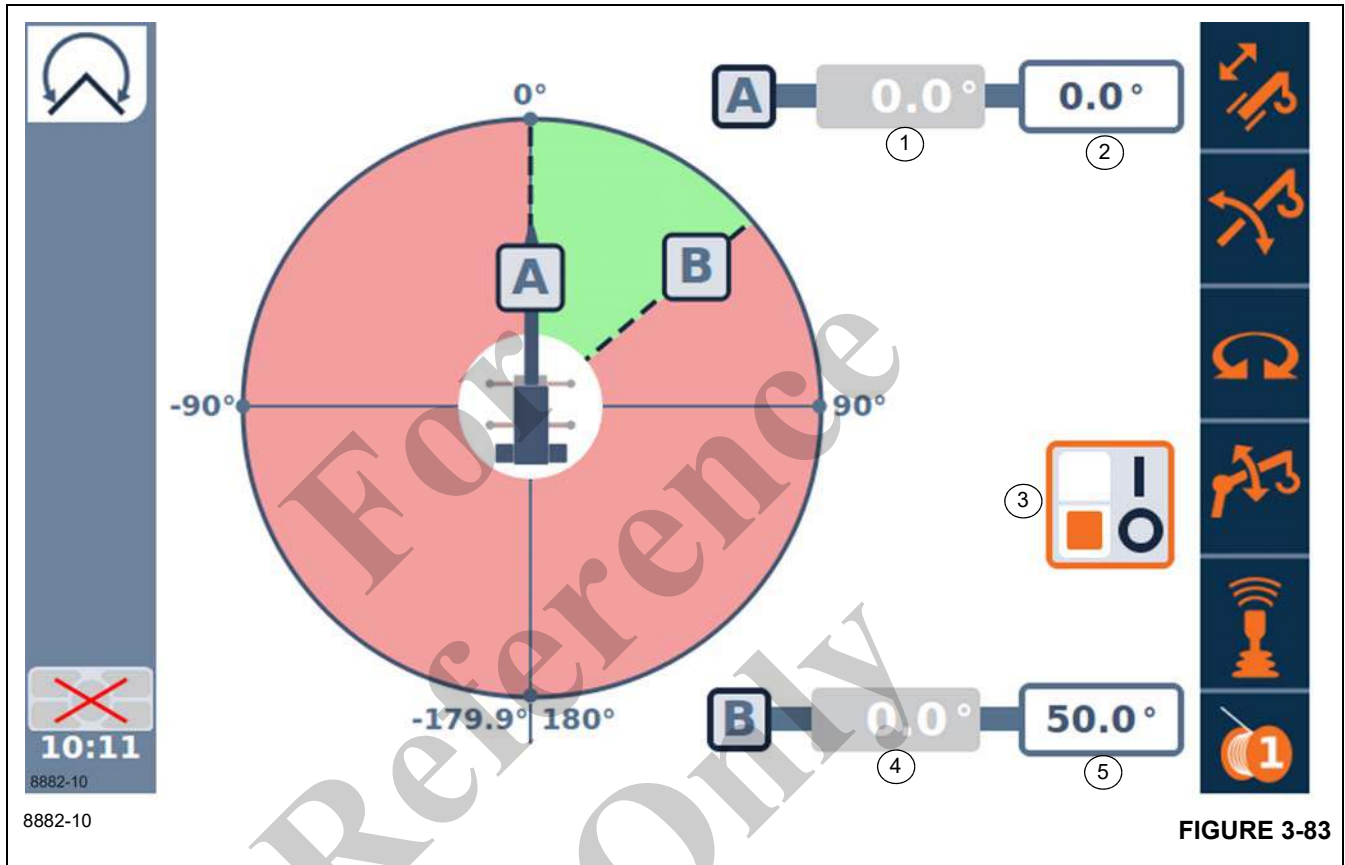

FIGURE 3-83
The Swing Angle Menu (Figure 3-83) allows the operator to set limits for the boom angles which the boom can operate within.
1. Select the Swing Angle Menu screen (Figure 3-83) on the Main Menu Screen.
2. Use the Right Arrow function to highlight the Switch symbol (3).
4. Use the Right Arrow function to highlight the maximum swing angle A Value (2). Use an OK button to begin entering the value. Use the Up Arrow or the Down Arrow or jog dial to change the value (in tenths) to the desired swing angle value. Use an OK button to finish entering the value. **Note** that the boom may now be at the limitation (depending on the value entered), so alarms may be active. The boom can now be moved away from the current boom elevation to cease the alarm, if needed.
1. Select the Swing Limitation Screen (Figure 3-83) on the Main Menu Screen.